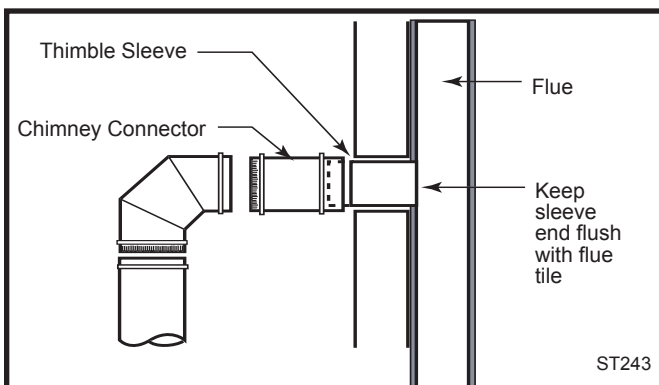

Fig. 6 The thimble, made of either ceramic or metal, must be cemented securely in place.
- Fasten each joint between sections of chimney connector, including telescoping joints, with at least three (3) sheet metal screws. The pre-drilled holes in the top of each section of chimney connector serve as guides when you drill 3 mm (1/8") holes in the bottom of the next section.
- Fasten the chimney connector to the chimney. Instructions for various installations follow. Figure 6 illustrates the general layout of chimney connector parts.
A special piece called the “thimble sleeve,” slightly smaller in diameter than standard connectors and most thimbles, will facilitate the removal of the chimney connector system for inspection and cleaning. (Fig. 6) Thimble sleeves are available from your local dealer.